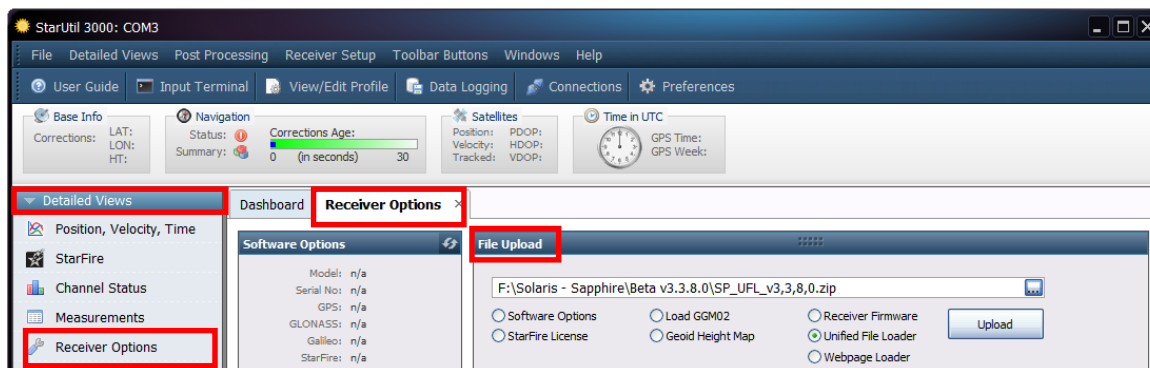

Figure 77: Receiver Options
1. Click *Receiver Options* on the *Detailed Views* menu to open the *Receiver Options* tab (see Figure 77).
1. Open the *Receiver Options* tab (see Figure 77).